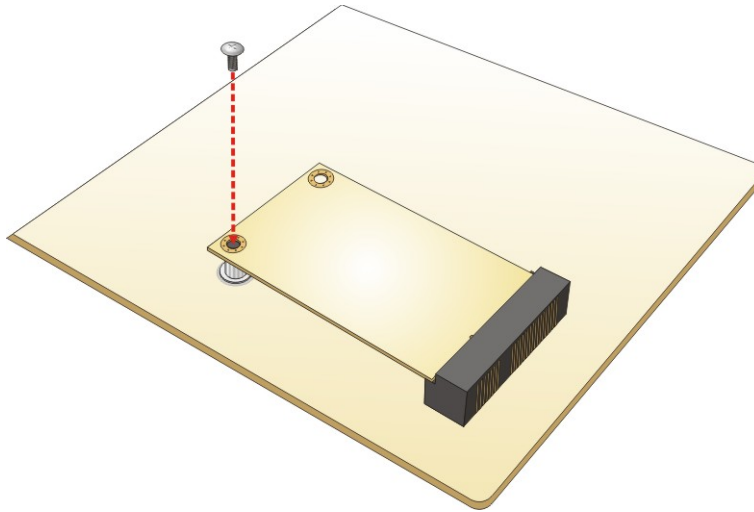

Figure 3-13: Securing the PCIe Mini Module
Step 5: Secure the PCIe Mini module with the retention screws previously removed (**Figure 3-13**).